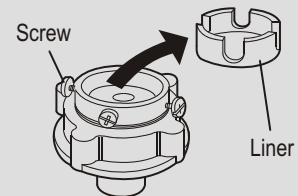

Figure 3
3. Stretch out the drain hose to the right of the frame from the groove. Fasten it in the base frame with the drain hose support, and fasten the screws. Then hang the hook in the drain hose, and hang the drain hose in the hole of the cabinet. (Figure 3)
(Figure 3)